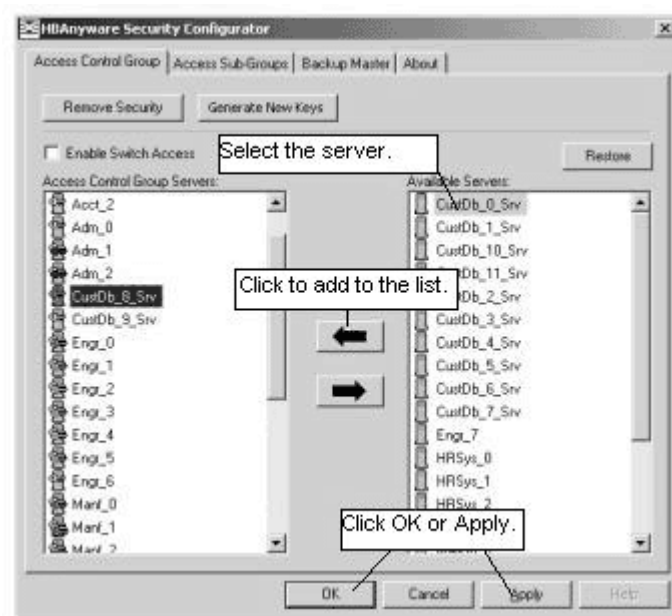

Figure 48: HBAAnyware Security Configurator, Access Control Group Tab with ACG Servers
1. From the MSC, start the HBAnyware Security Configurator. The **Access Control Group** tab appears (see Figure 48 on page 89).